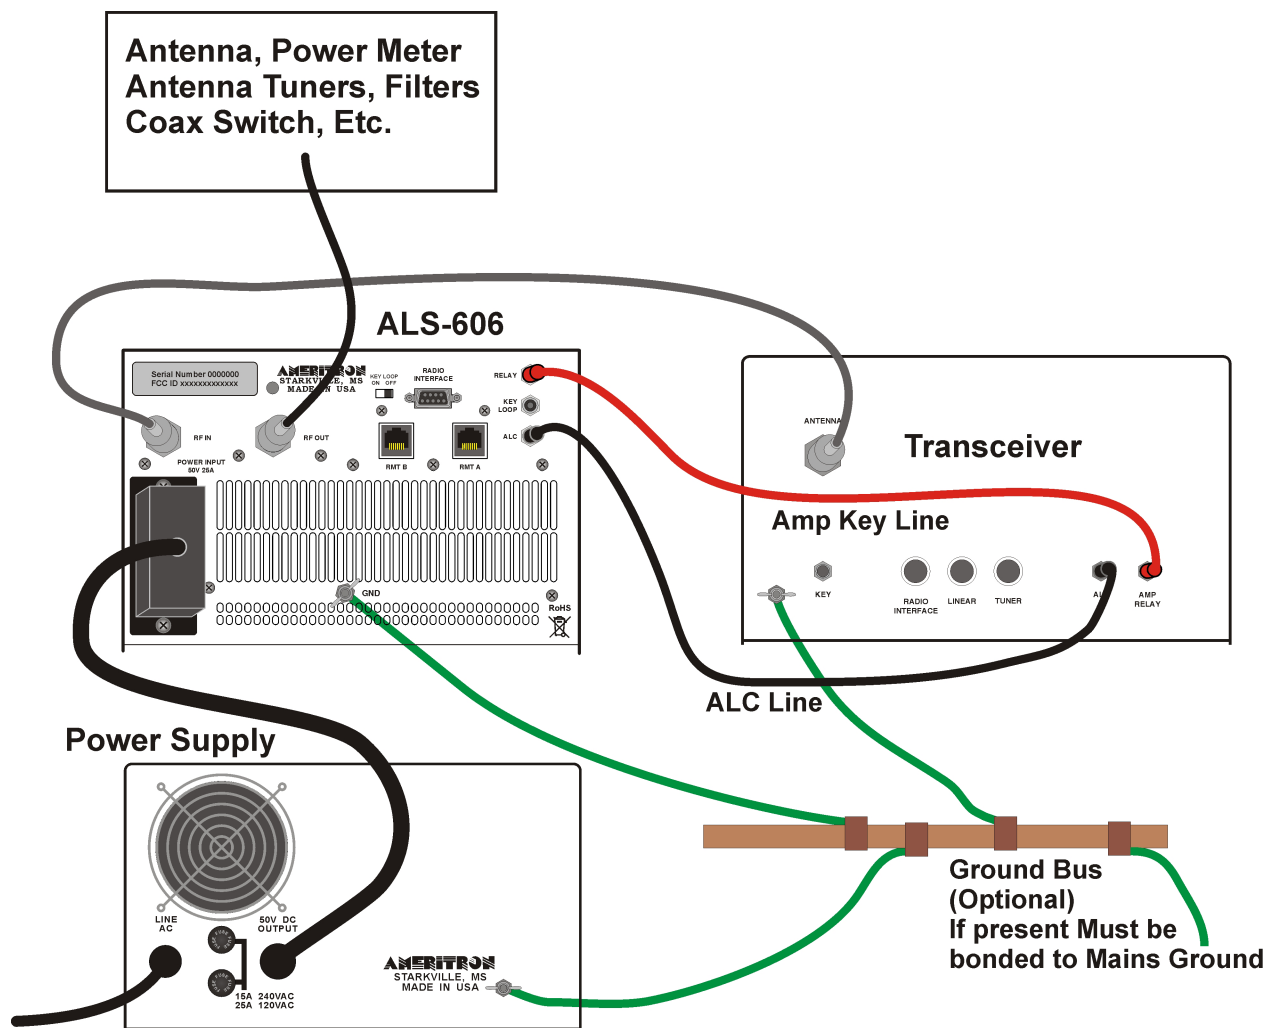

Figure 2 Amplifier Interconnection
This amplifier covers all Amateur Radio frequencies below 54 MHz, as restricted by FCC or your local governing authority. Once you have established proper connections, please set the amplifier BAND SELECT control (Fig. 2, ref 3) to one of the following bands:
The multimeter’s **HV scale** (fig.2, ref 1, lower right scale arc) should indicate approximately 50 volts. Any voltage above the Forward (KW) arc crossing is unsafe.